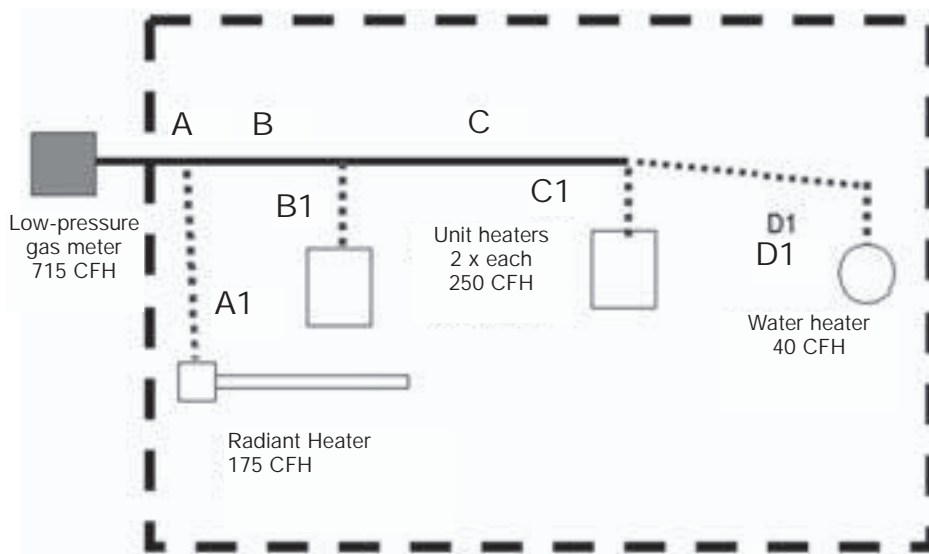

Figure 3-5
- The system shown in figure 3-5 is a typical commercial building with 4 appliances. The gas pressure for this example is standard low pressure with 6-inch supply pressure and 0.5-inch pressure drop.